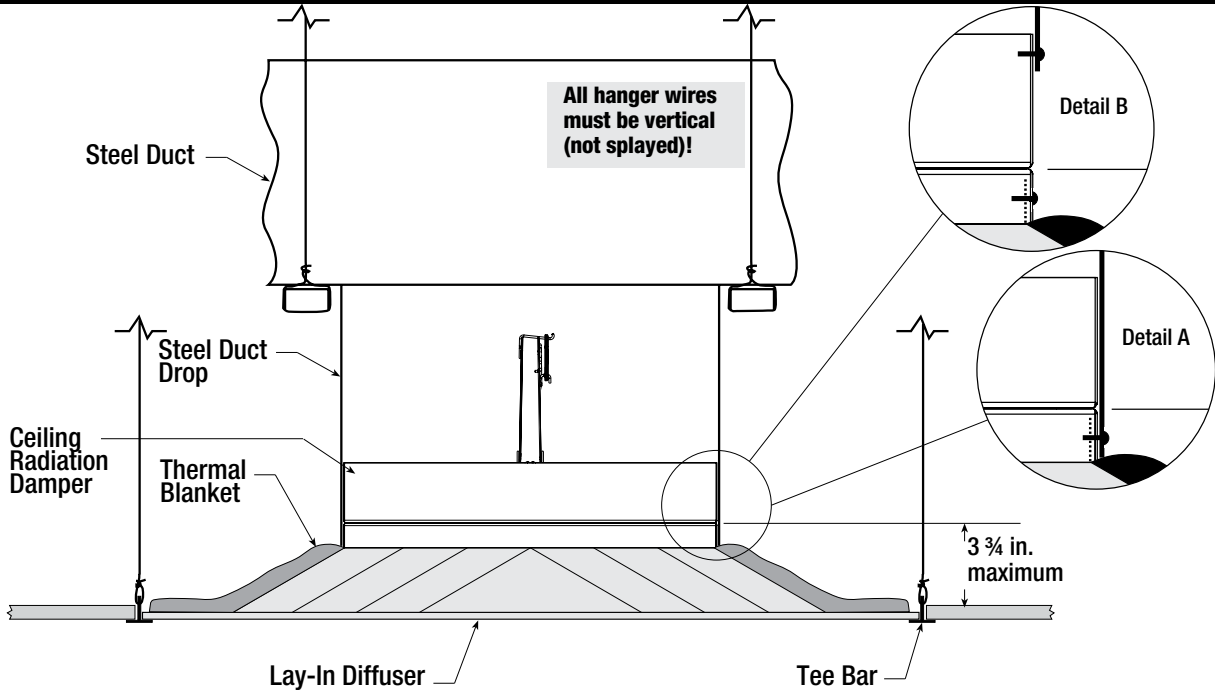

Figure 2
1. Ceiling radiation damper and diffuser neck may be connected directly to the duct drop (see Detail A, Figure 2).
2. Ceiling radiation damper may be connected directly to the diffuser neck and then the duct drop connected to the damper (see Detail B, Figure 2).
Models CRD-1, CRD-1LP, CRD-2, and CRD-60 may be installed as shown in **Figure 2** (Model CRD-1 & CRD-1LP Illustrated).